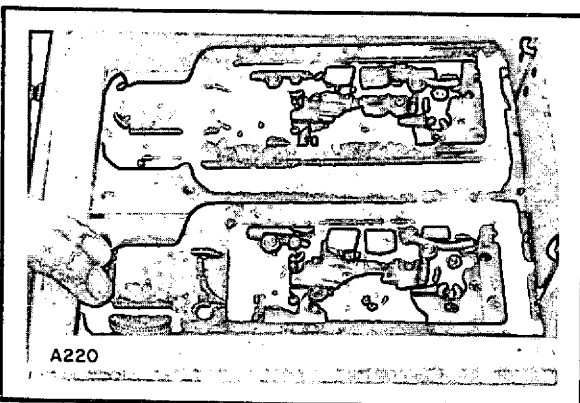

Fig. 3-4. Push Down on Loader
- d. Push down on the loader with the tape cartridge inserted. (See figure 3-4.)